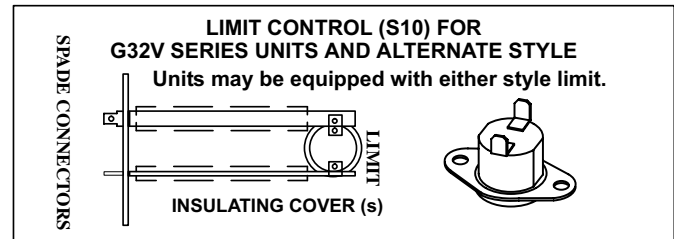

FIGURE 24
3.Primary Limit Control (S10) Figure 24